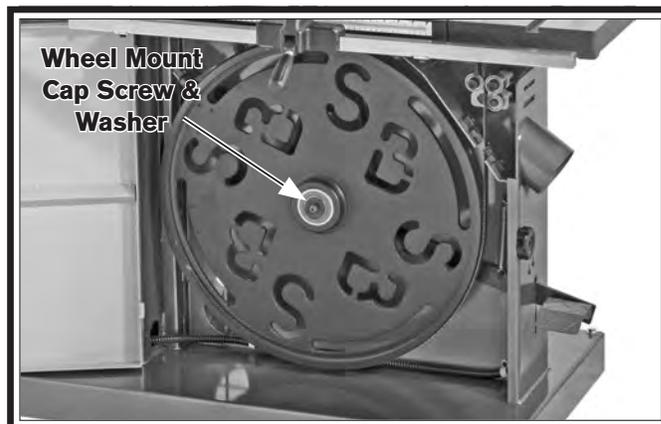

Figure 91. Location of lower wheel mount cap screw and washer.
4. Unthread wheel cap screw (see **Figure 91**) and carefully slide lower wheel off of bearing shaft.